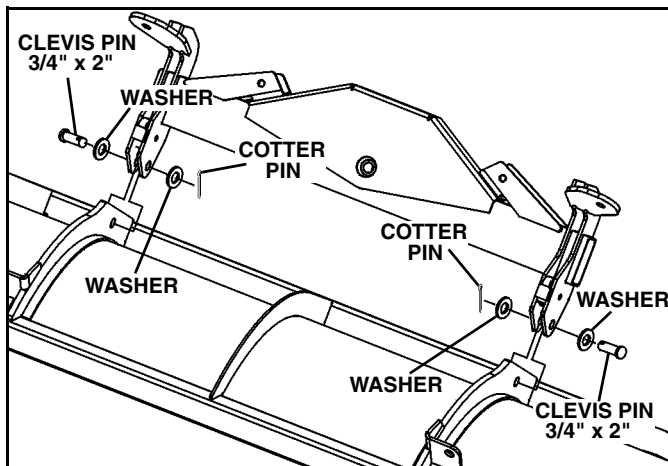

Figure 1-5
4. Place swing frame on blade and insert 3/4" x 2" clevis pin from blade parts bag. The ribs on either side of the center rib should be between the swing frame lugs. (See Figure 1-5).